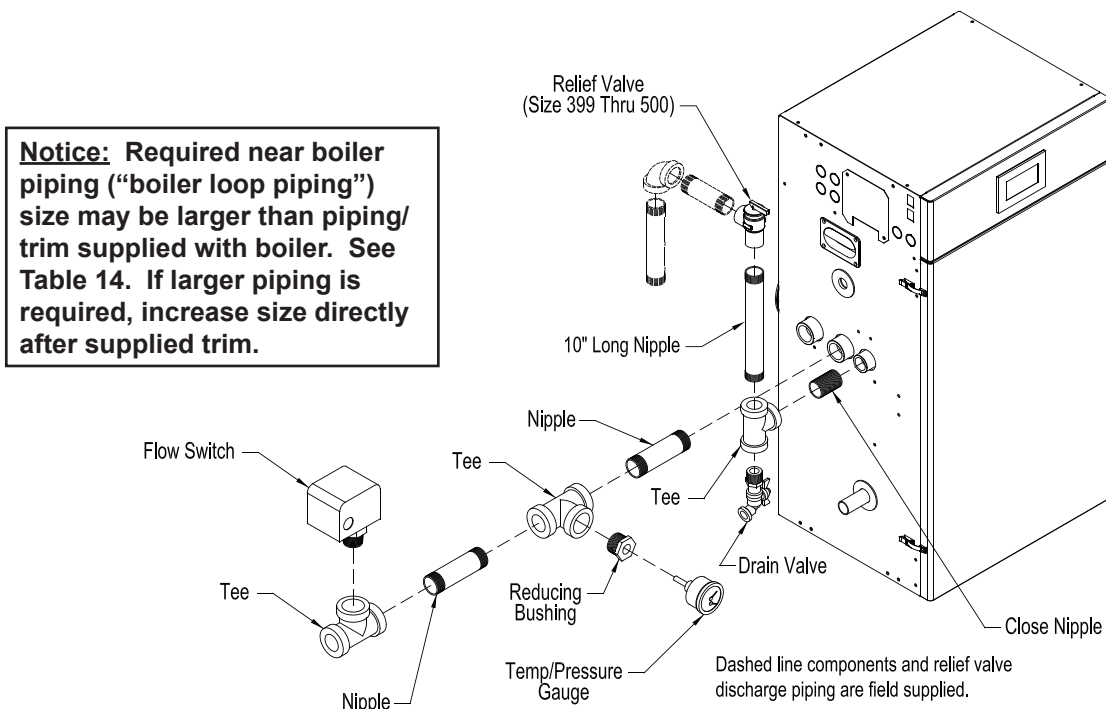

Figure 19: Factory Supplied Piping and Trim Installation
Phantom boilers have factory supplied Miscellaneous Parts Carton, which includes packaged flow switch with two boiler-specific paddles, supply piping components, gas piping components, temperature & pressure gauge, safety relief valve and drain valve. See Figure 19 "Factory Supplied Piping and Trim Installation".
- Safety Relief Valve (Required)** – The safety relief valve is packaged loose with boiler and must be installed in the location shown in Figure 19 “Factory Supplied Piping and Trim Installation”. The safety relief valve must be installed with spindle in vertical position. Installation of the safety relief